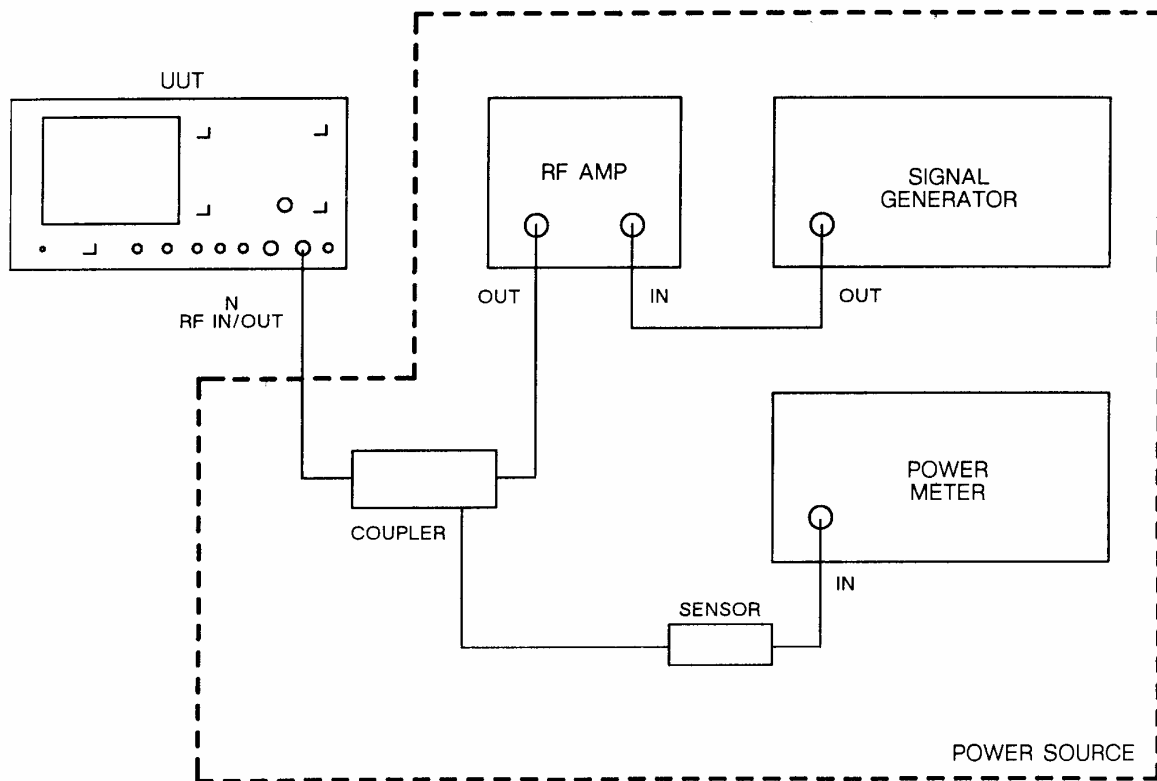

Fig. 5-1-17 Test equipment connections for RF power meter measurement accuracy performance checks
- (1) Connect the equipment as shown in Fig. 5-1-17, using the high frequency coupler. But note that the power source must be calibrated at the frequencies to be checked.
- (2) Set the UUT to TX, N-type input socket.
- (3) Set the power source to give an output of 2 W at 100 MHz.
- (4) Check that the UUT indicates 2 W  $\pm 10\% \pm 1$  digit.
- (5) Set the power source to give 220 mW.
- (6) Check that the UUT indicates 220 mW  $\pm 10\% \pm 1$  digit.
- (7) Repeat the above for random frequencies between 100 and 500 MHz.
- (8) Repeat for random frequencies between 500 and 960 MHz and check that the UUT indicates the power sent  $\pm 15\% \pm 1$  digit.
- (9) Repeat for random frequencies between 960 and 1000 MHz and check that the UUT indicates the power sent  $\pm 20\% \pm 1$  digit.
- (10) Replace the high frequency directional coupler (HP 778D) with the low frequency coupler.
- (11) Repeat the above checks for random frequencies between 1.5 and 100 MHz and check that the UUT indicates the power sent  $\pm 10\% \pm 1$  digit.